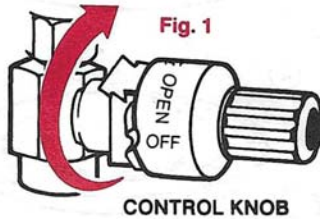

Fig. 1
2. Be sure CONTROL KNOB is in "OFF" position (Fig. 1).